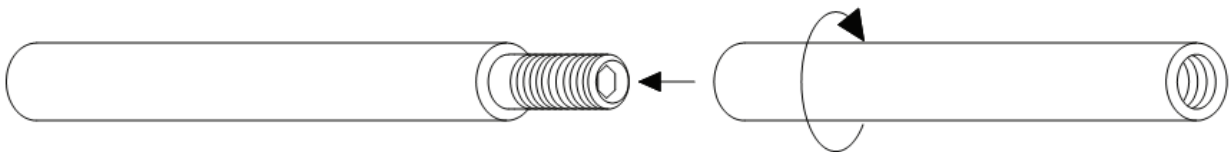

Fig 2
2. Hold the rod with connector screw attached, insert the exposed connector screw into the additional rod and twist to tighten. (see Fig 2)